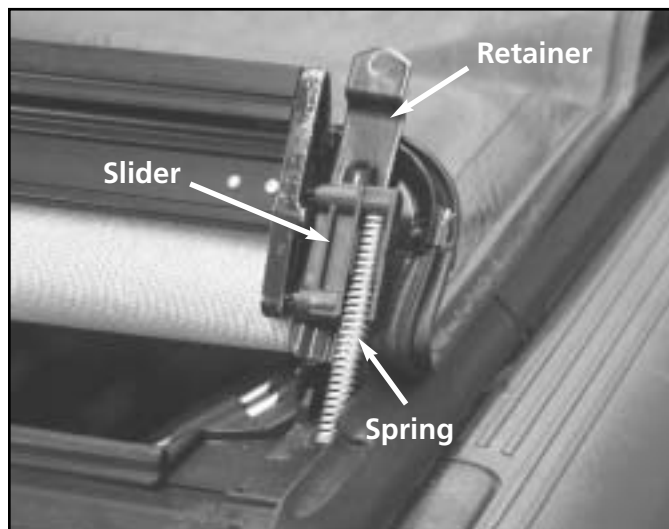

Figure S-20
2. Lift the cover back and away from the front rail being careful not to loose the slider, slider retainer and slider spring. See figure S-20.
11. Move the tonno cover over the motor cover and front rail. Be sure the slider, slider spring and slider retainer are installed. Refer back to figure S-20.